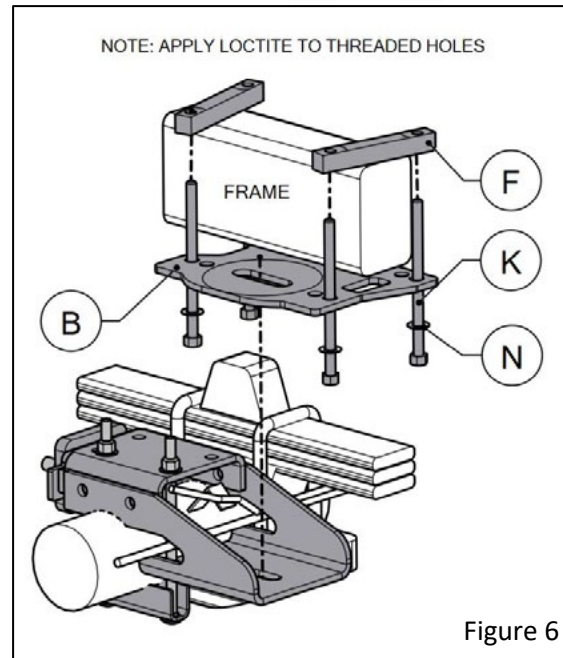

Figure 6
- Install the upper bracket (B) onto the frame as shown in Figure 6.